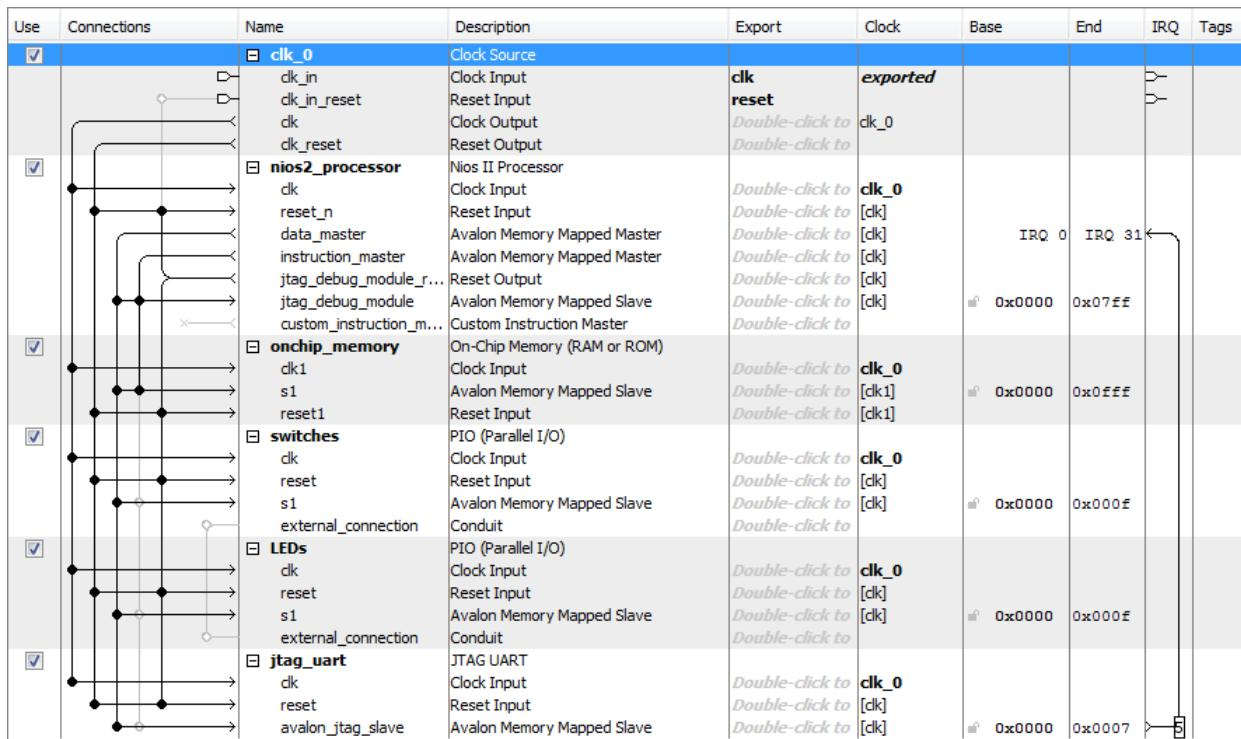

Figure 16. The system with all components appropriately named.
11. Note that the Qsys tool automatically chooses names for the various components. The names are not necessarily descriptive enough to be easily associated with the target design, but they can be changed. In Figure 2, we use the names *Switches* and *LEDs* for the parallel input and output interfaces, respectively. These names can be used in the implemented system. Right-click on the **pio_0** name and then select **Rename**. Change the name to *switches*. Similarly, change **pio_1** to *LEDs*. Figure 16 shows the system with name changes that we made for all components.